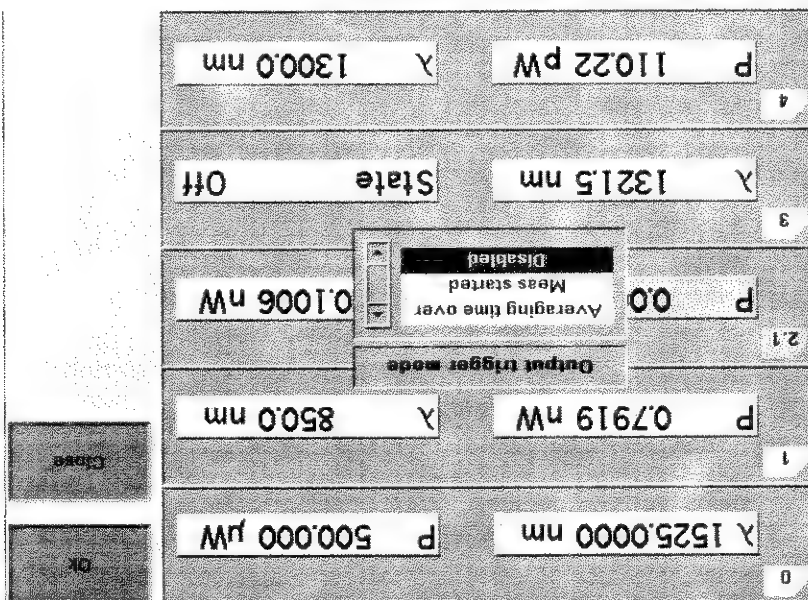

Figure 55 Output Trigger Mode
- 3 Move to *<Output Trigger Mode>*, by using the cursor key, and press *Enter*. You will see the screen in Figure 55.